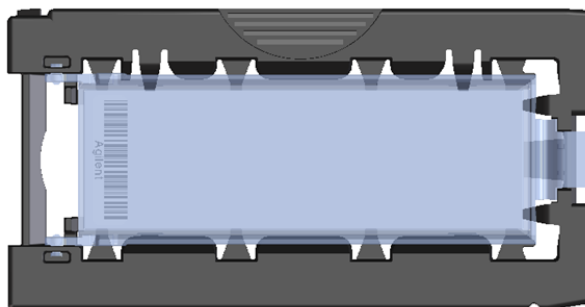

Figure 40 Slide holder – closed with slide
- g Close the plastic slide cover, pushing on the tab end until you hear it “click”. See Figure 40.